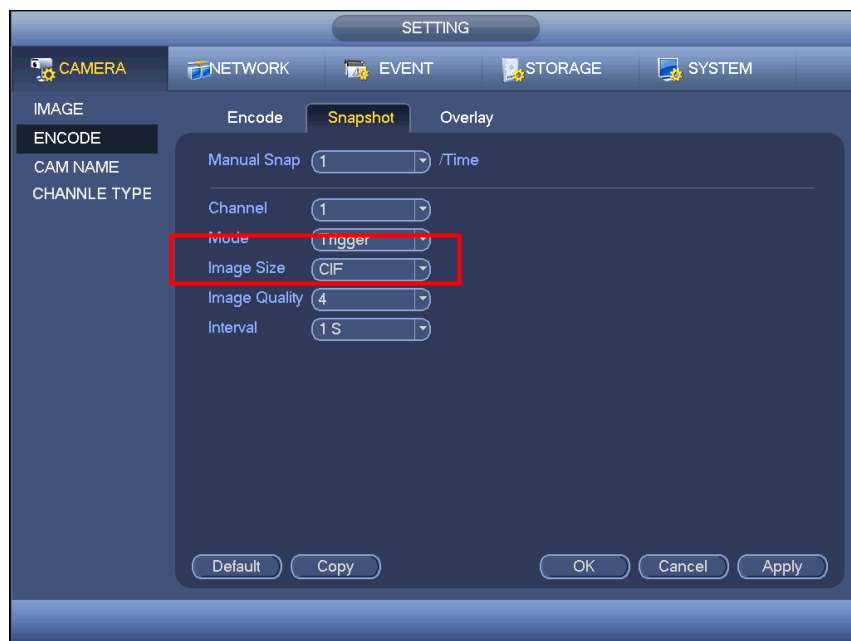

Figure 4-108
- In main menu, from Setting->Camera->Encode->Snapshot interface, here you can input snapshot mode as trigger, size, quality and frequency. See Figure 4-108.